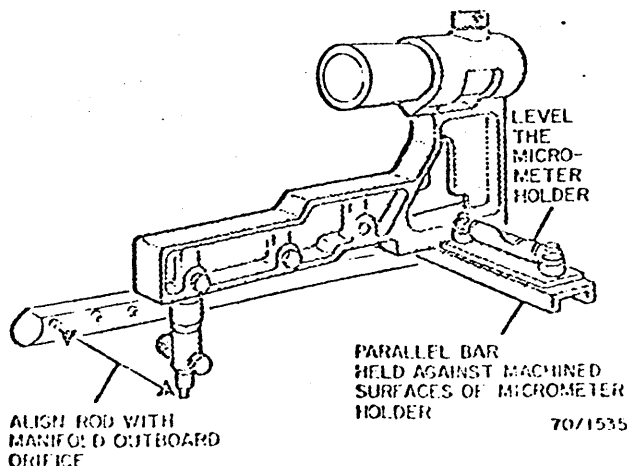

Fig. 3-180. Aligning Micrometer Holder
5. Position the micrometer holder on the drum shaft so the micrometer rod is aligned with the outboard orifice of the puffer manifold (Fig. 3-180).